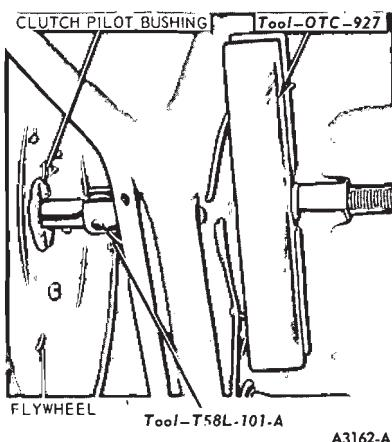

FIG. 42—Removing Clutch Pilot Bushing
3. Remove the pilot bushing (Fig. 42).